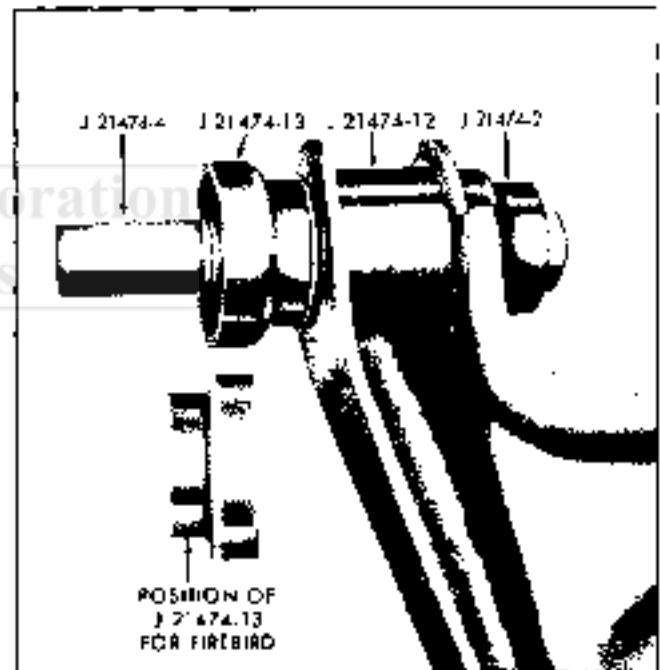

Fig. 3-19 Installing Lower Control Arm Front Bushing (Firebird, Tempest) and Rear Bushing (Pontiac)
3. To replace bushing in lower control arm arrange tools as shown in Fig. 3-19.